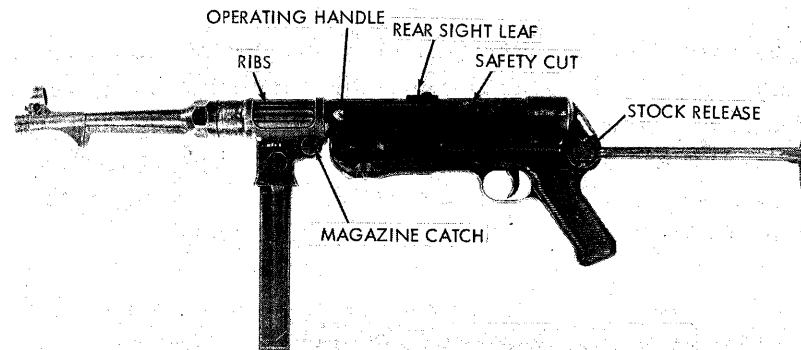

Figure 48. World War II German Model 1938 submachinegun (MP38).
a. The 9-mm submachineguns Model 1938 and 1940 (figs 48 and 49) were produced in large quantities by Nazi Germany prior to and during World War II. Enormous quantities of these weapons were captured by or surrendered to the Soviets and their satellites at the end of World War II; ~~because of this, while these guns are no longer standard in any army, they are often encountered in the hands of irregular or insurgent units.~~ The two weapons are almost identical in appearance; the prime recognition feature is the ribbed MP 38 receiver as opposed to the smooth MP 40 receiver. Both weapons have identity marks and serial numbers stamped into the cap at the rear of the receiver. The MP 41, a similar but ~~now uncommon model,~~ has a fixed wooden butt stock.
b. Insert the magazine into the magazine housing until the magazine catch (fig 48) engages and holds the magazine in place.
c. If the MP 38 or MP 40 is equipped with a safety latch on the operating handle (fig 48), move it outward as far as possible. Pull the operating handle fully rearward; then ease it forward until the bolt is caught by the sear.
d. If desired, the gun can be made safe by pulling the operating handle to the rear until it can be rotated up into the safety cut (fig 48).
e. The folding stock can be opened or folded by pressing the large, knurled, stock release at the left rear of the receiver (fig 48) and moving the stock to the desired position. The butt plate can be rotated into position.
g. Remove the magazine by pressing the magazine catch (fig 48) and pulling the magazine out of its housing.